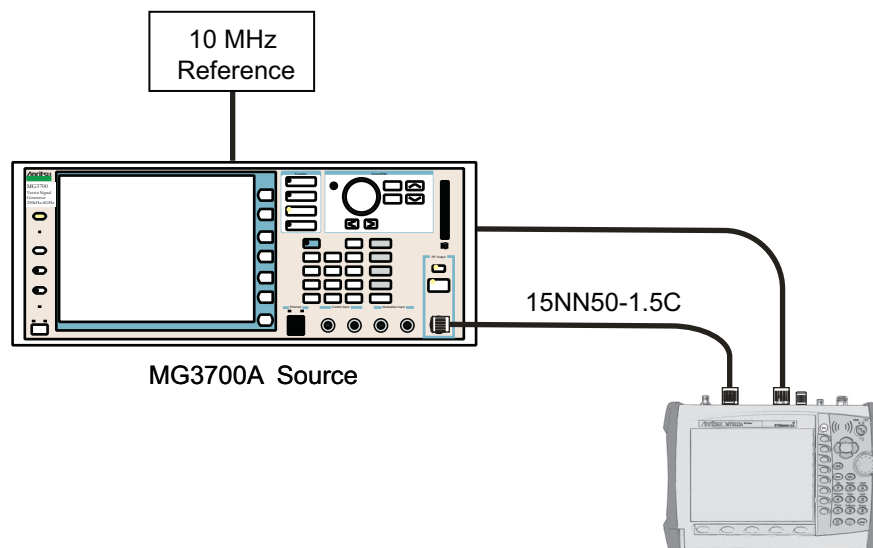

Figure 5-9. DVB-T/H Signal Analyzer Option Verification
1. Connect the 10 MHz External Reference signal to the MG3700A and the MT8222A as shown in Figure 5-9, “DVB-T/H Signal Analyzer Option Verification”.
1. Connect the 10 MHz Frequency Reference source to the Anritsu MG3700A and MT8222A as shown in Figure 5-9 on page 5-47.